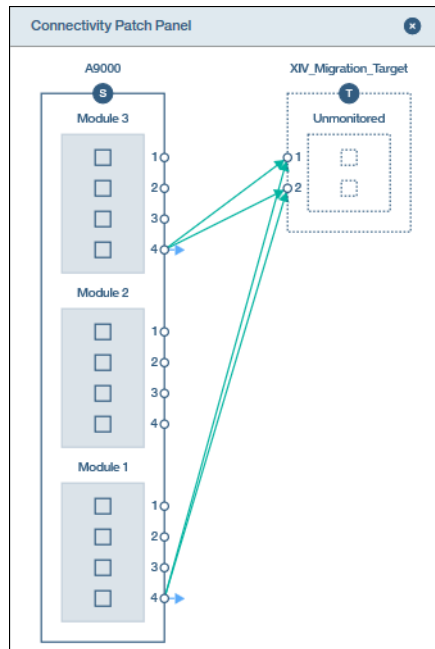

Figure 8-37 Migration connectivity details
- c. If the connection between IBM FlashSystem A9000 and the target system (the XIV Storage System) is successful, the connection is displayed as connected (with a check mark). You can select **Connectivity Details** to view the connectivity, as shown in Figure 8-37.